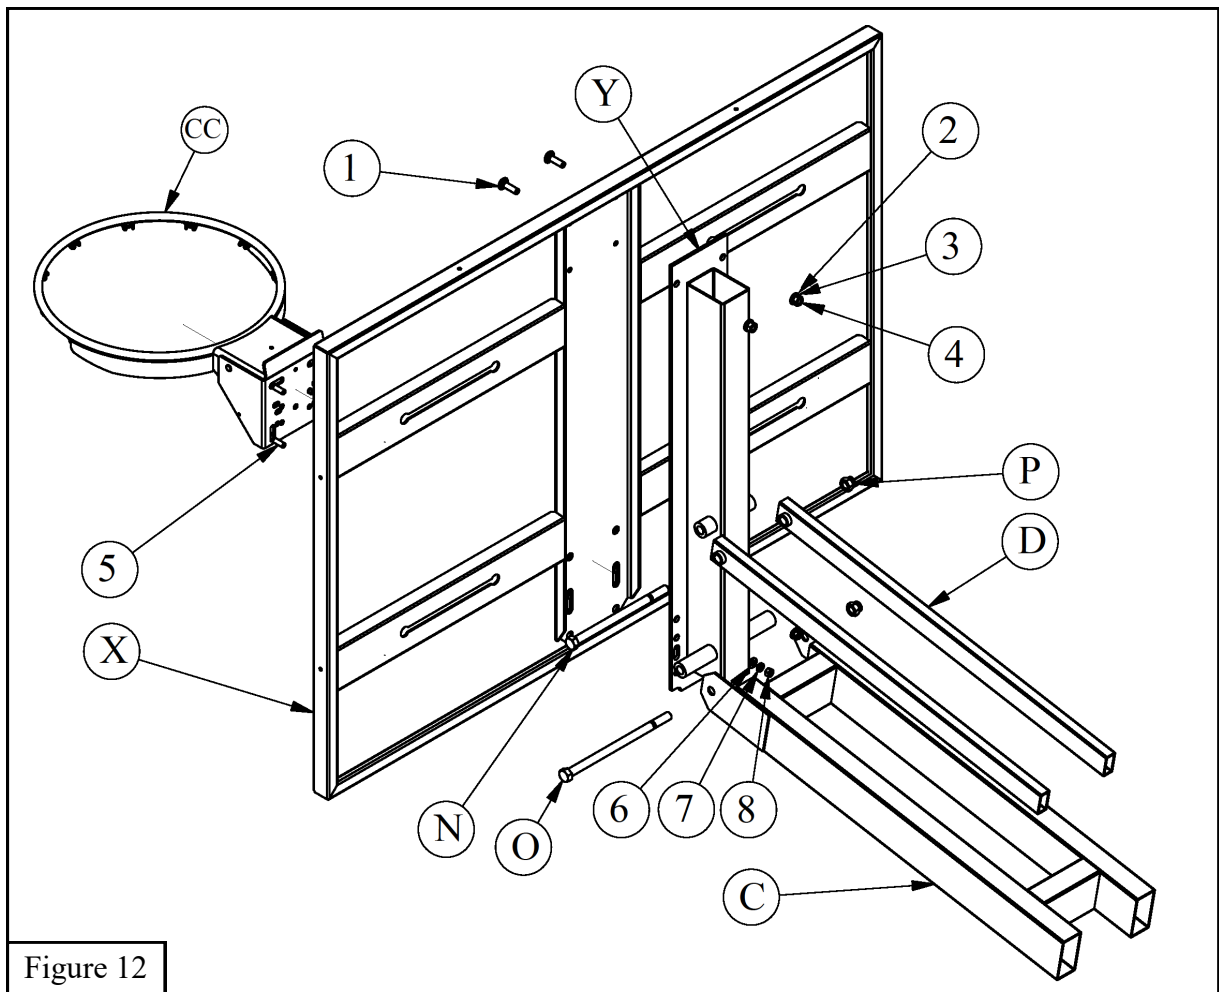

Figure 12
1. Use 5/8" X 12" Hex Bolt (O), 5/8" X 11" Hex Bolt (N), and 5/8" Lock Nuts (P) to attach Backboard H-Frame (Y) to Lower Arm (C) and Upper Arms (D). Do not overtighten hardware, make sure the Lower Arm (C) and Upper Arms (D) pivot and adjust up and down freely. See Figure 12.
2. Hang Backboard (X) over the top lip of Backboard H-Frame (Y). Use 7/16" X 1 1/2" Carriage Bolts (1), 7/16" Flat Washers (2), 7/16" Lock Washers (3) and 7/16" Hex Nuts (4) in the top two holes of Backboard (X) and Backboard H-Frame (Y). Hand tighten hardware at this time. See Figure 12.
3. Use 3/8" X 1 1/2" Hex Bolts (5), 3/8" Flat Washers (6), 3/8" Lock Washers (7) and 3/8" Hex Nuts (8) to install Rim (CC). Hand tighten hardware at this time. See Figure 12.
4. Level Backboard (X) and Rim (CC). Tighten all hardware.